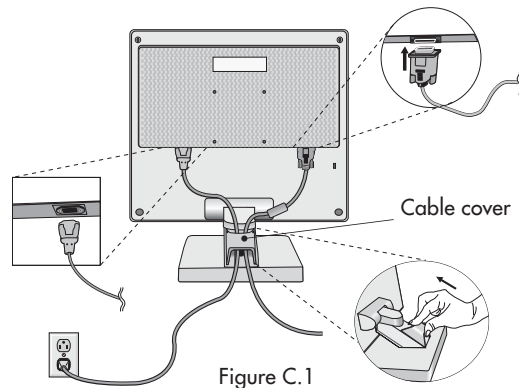

Figure C.1
**NOTE: To obtain the MultiSync LCD1760V Macintosh cable adapter, call NEC-Mitsubishi Electronics Display of America, Inc. at (800) 632-4662.**
4. Connect one end of the power cord to the monitor and the other end to the power outlet. Place the Video Signal Cable and power cord under Cable cover (**Figure C.1**). Replace cable cover.
5. Connect one end of the power cord to the monitor and the other end to the power outlet. Place the Video Signal Cable and AC power cord under Cable cover (**Figure C.1**). Replace cable cover.